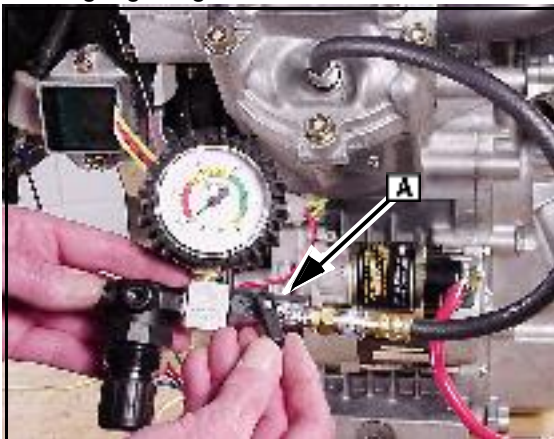

Fig. 4
9. Turn regulator adjustment knob clockwise until the tester's needle is on the set point. Push knob in to lock. Slowly open air outlet valve and note position of needle on gauge, Fig. 4.